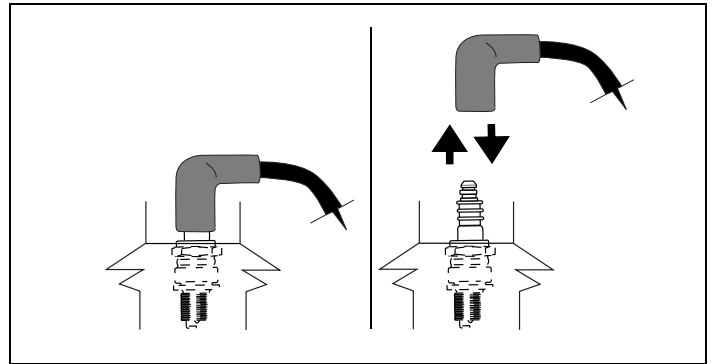

Figure 28. Disconnecting/Connecting Spark Plug
10. Carefully disconnect spark plug wire from grounding post, if provided. See Figure 28.